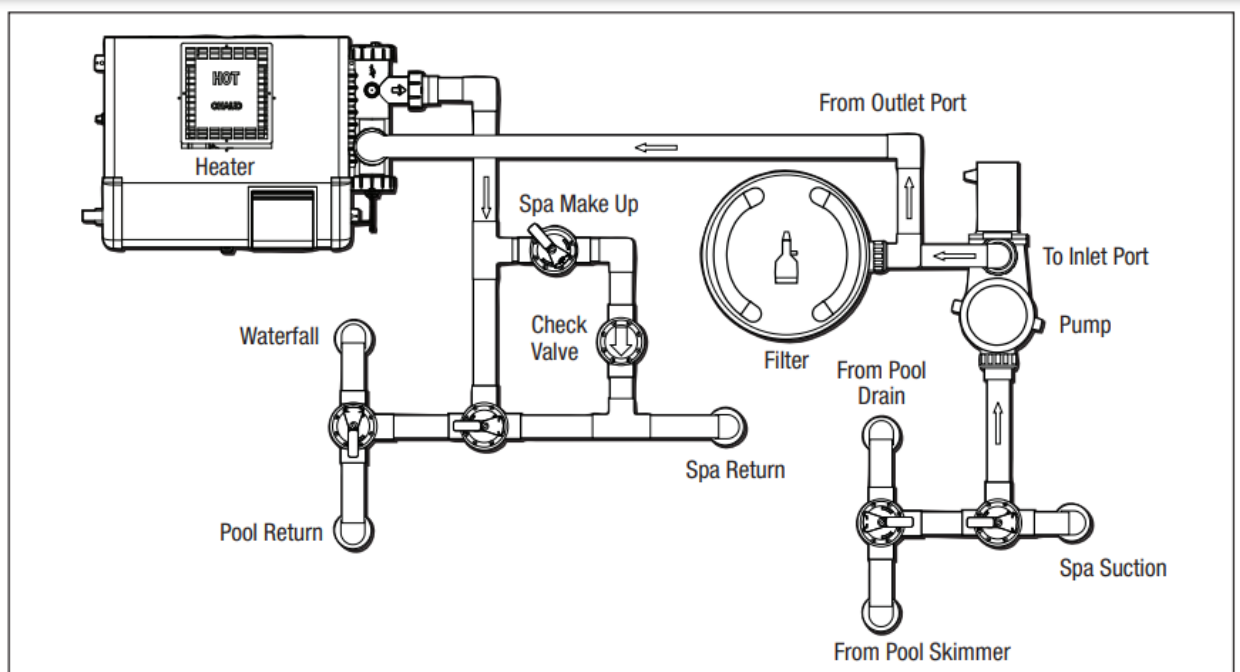

Figure 5. CL Cartridge Filter Plumbing for Pool/Spa Combination
3. Place the filter on the concrete pad, lined up with the inlet/outlet pipes. See Figures 5 and 5A.